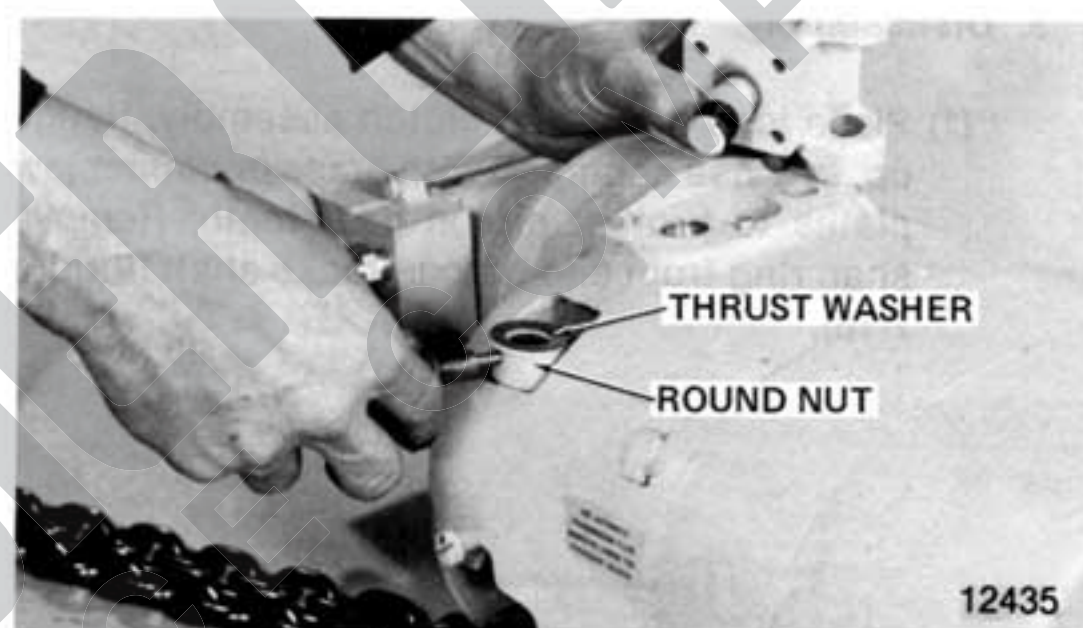

Figure 7-17. Removing Suspension Lug (Single Reeved Model).
- (1) On single reeved models drive grooved pin from the round nut inside the hoist frame. Hold round nut from rotating with drift punch through access hole in side of hoist frame. Unscrew suspension stud assembly by wrenching hex on top of suspension lug (see Figure 7-17).